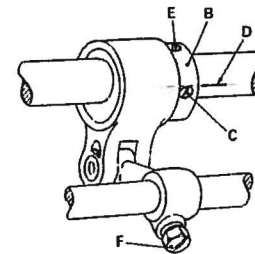

fig. 6
- Set eccentric B (fig 6) for the evasive action of the looper ensuring that the mark D on the main shaft runs as a tangent to screw C.
- See that the looper, in its stroke to the left, passes as close as possible but without touching (about 0.05 mm) the needle scarf of the righthand needle. If this is not the case, release screw F (fig 6) lifting or lowering it slightly according to needs and retighten.